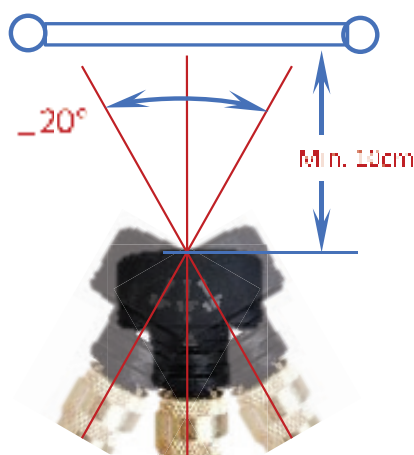

Figure 4
- KEEP the outlet of washer away from coil for at least 10cm, see figure 4;
- KEEP the water gun perpendicular to the coil surface and the angle error shall less than 20° , or $\pm 40^\circ$ if the distance from washer to coil is more than 30cm, see figure 4;